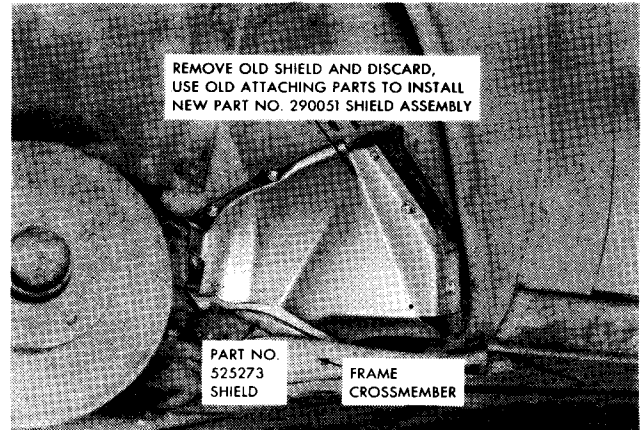

FIG. 2
2. Remove the old clutch pedal splash shield (similar to the one shown in Fig. 2). Retain the fastening parts for installation of the new shield. Discard the old shield.
4. Place the pedal splash shield assembly Part No. 290051, in position so that the holes in the shield are aligned with the screw holes of the old shield which was removed in Step No. 2, above, and, using the original attaching parts, fasten the shield securely in place. See Fig. 2.
6. Place pedal splash shield assembly, Part No. 290051, in position so that the holes in the shield are aligned with the screw holes of the old shield which was removed in Step No. 2, above, and, using the original attaching parts, fasten the shield securely in place. See Fig. 2.